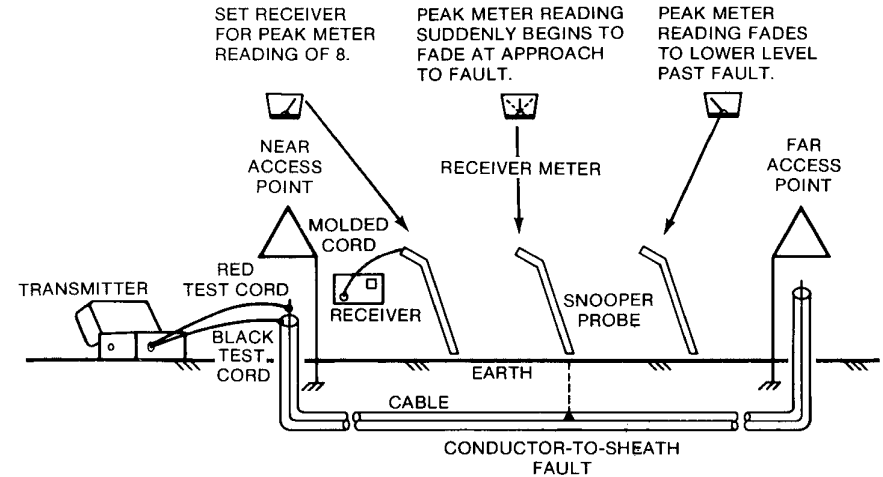

Figure 3-5.
4. Plug the jack end of the red/black test cord into the TRACING TONE jack receptacle on the transmitter (see Figure 3-5).